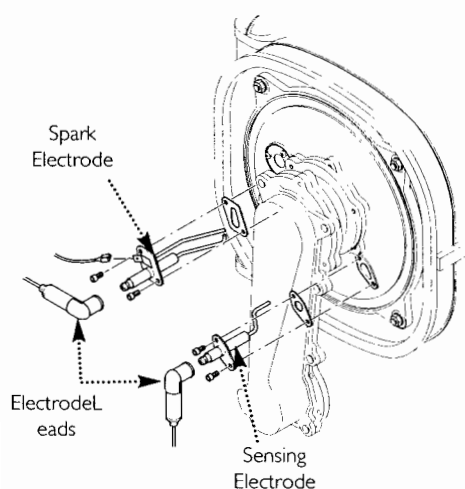

Fig. 47
12.2 Spark and Sensing Electrodes (Fig. 47)